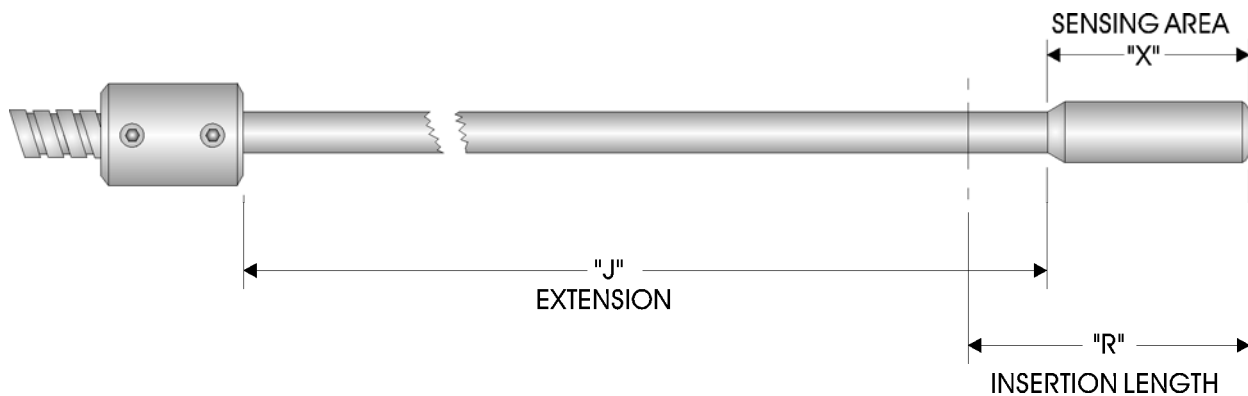
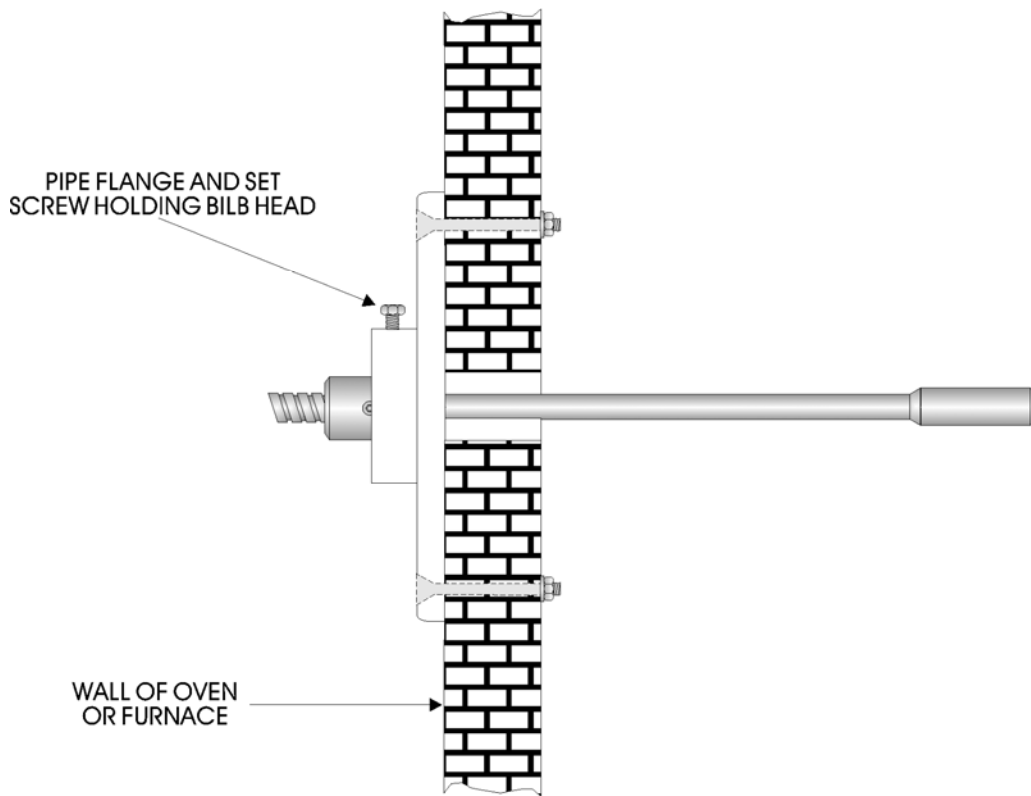

Figure TA-2 - Plain Bulb Mounting
Figure TA-5 - Plain Bulb Perpendicular to Chamber Wall
The basic bulb mountings are illustrated in Figures TA-2, 3 and 4. Each of these illustrations identifies a sensing area (bulb), extension area, and a recommended insertion length. The standard calibration for bulbs shipped from the factory is such that the sensitive portion (X) plus three inches equals the total insertion length (R). If the insertion length (R) is too long or short, slight error readings may be experienced. Be sure that the bulb is secured at the correct insertion length to prevent movement.
The plain bulb mounting of Figure TA-2 is intended for applications where the bulb is in direct contact with the process medium. This type may be installed using a pipe flange and set-screw arrangement, or by using a suitable clamping device. The bulb may also be suspended above the process using a wire or chain but this approach is not recommended for turbulent processes since bulb movement can influence accuracy of temperature readings. Plain bulb applications are shown in Figures TA-5, 6 and 7.
The extension area (J) identified in Figures TA-2, 3 and 4 is furnished in standard 10 or 30 inch lengths. This extension can be bent to clear pulleys, levers, stirring paddles, etc. to suit the installation. Minimum radius of the bend must not exceed 1 inch. It is recommended that the bend can be carefully around a pipe of proper radius to avoid flattening the extension. Do not repeatedly bend or overbend any part of the extension as it may break. Keep bending at a minimum.